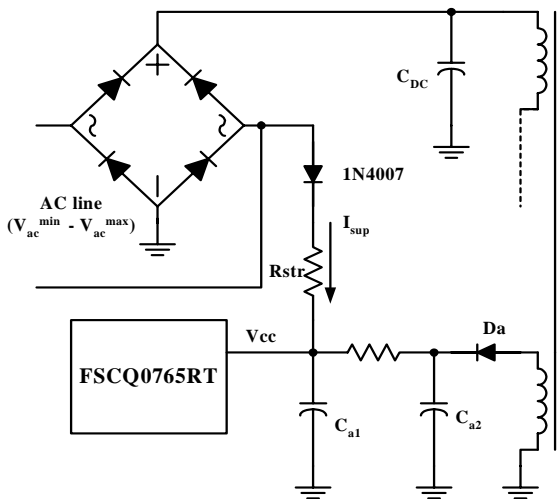
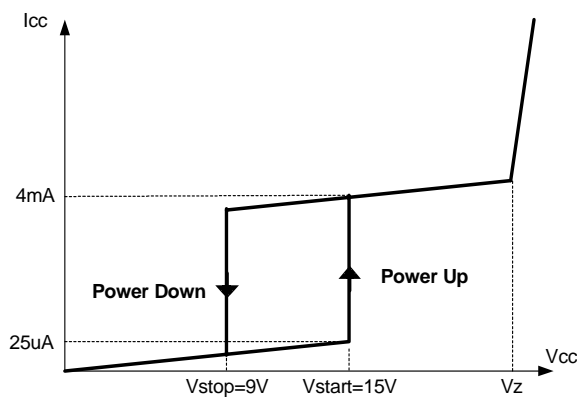

Figure 4. Startup circuit
Figure 5. Relation between operating supply current and Vcc voltage
1. **Startup** : Figure 4 shows the typical startup circuit and transformer auxiliary winding for FSCQ0765RT application. Before FSCQ0765RT begins switching, FSCQ0765RT consumes only startup current (typically 25uA) and the current supplied from the AC line charges the external capacitor (Ca1) that is connected to the Vcc pin. When Vcc reaches start voltage of 15V (V_{START}), FSCQ0765RT begins switching, and the current consumed by FSCQ0765RT increases to 4mA. Then, FSCQ0765RT continues its normal switching operation and the power required for this device is supplied from the transformer auxiliary winding, unless Vcc drops below the stop voltage of 9V (V_{STOP}). To guarantee the stable operation of the control IC, Vcc has under voltage lockout (UVLO) with 6V hysteresis. Figure 5 shows the relation between the FSCQ0765RT operating supply current and the supply voltage (Vcc).